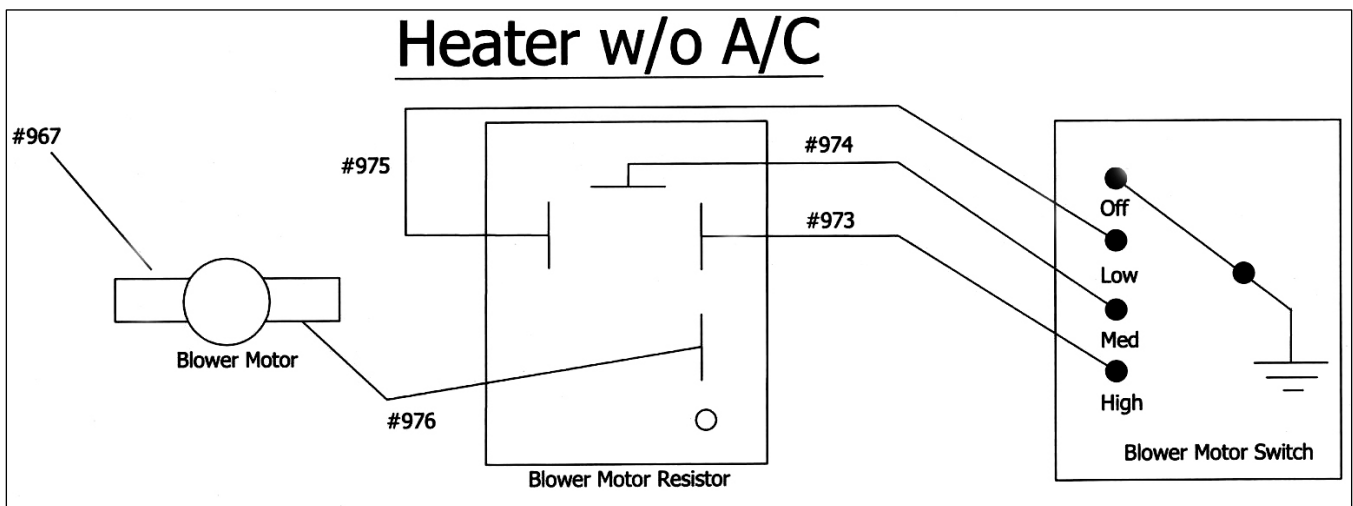

Figure 7-19 Blower Motor/Blower Motor Resistor/Blower Motor Switch
- 7.11.1 The connections for the Blower Motor, Blower Motor Resistor and Blower Motor Switch in a Mustang with a **Heater ONLY** are illustrated in **Figure 7-19**. The ground for the Blower Motor Switch is internal to the switch, meaning there are no connections to be made. The wire colors on wire numbers 973, 974, & 975 all match the wire colors coming out of the switch. The wire #976 (ylw) connects to the Orange wire on the blower motor. The wire #967 (brn) connects to the Black wire on the blower motor.